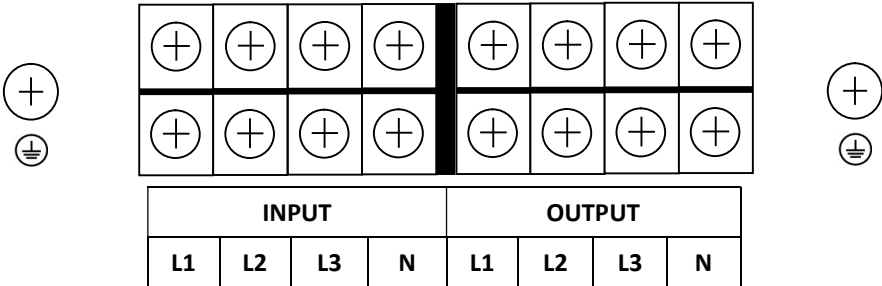

Figure 9 - INPUT/OUTPUT terminals for Three Phase Stabilizer
- 2.1. Remove the metallic panel that covers the **Input/Output terminals**. The terminals are shown in figure 9. All the cables have to reach the terminals from the rear side using the proper holes on the stabilizer. In power models above 75KVA the terminals are behind the front door.
- 2.2. Connect the **AC INPUT line (PHASE 1, PHASE 2, PHASE 3, NEUTRAL and GROUND)**, paying attention to the right polarity, in accordance with figure 9, as explained below:
- 2.3. Connect the **AC OUTPUT line (PHASE 1, PHASE 2, PHASE 3, NEUTRAL and GROUND)**, paying attention to the right polarity, in accordance with figure 9, as explained below: